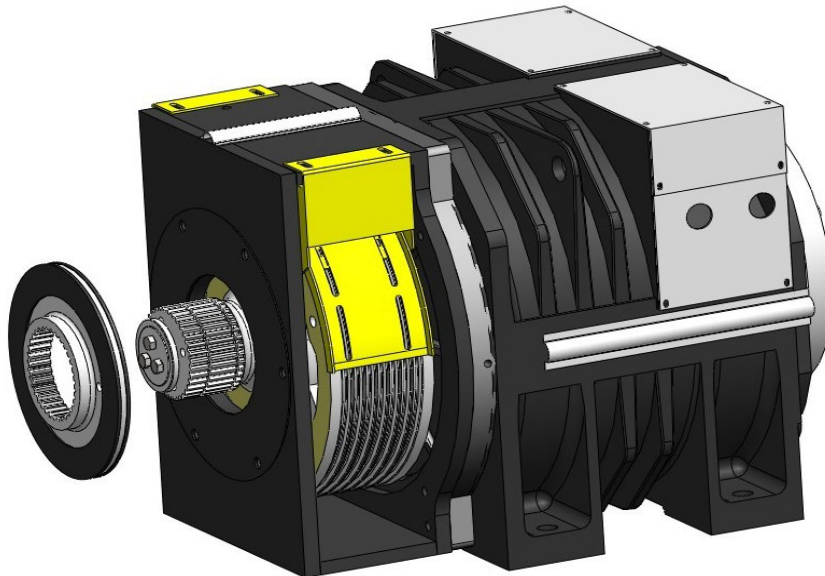

Figure 39 Install Friction Lining Part B
3. Then install the new friction lining part B. It is OK to apply a little force using rubber hammer to press it in and move it forward through the spline (Be careful not to damage the O-ring.); make sure the friction lining part moves easily. See Figure 39.